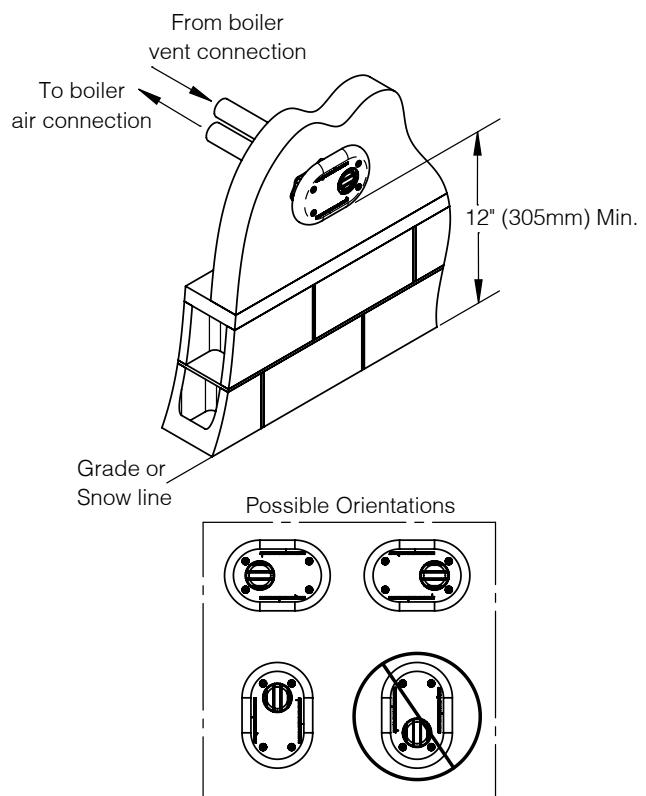

Figure 8-8: Low Profile Terminal
1. Low profile terminals listed in Table 8-7 may be used to terminate air and vent outside building per Figure 8-8. Both air and vent pipes must attach to terminal kit.
NOTICE: Ensure outer terminal orientation per Figure 8-8.